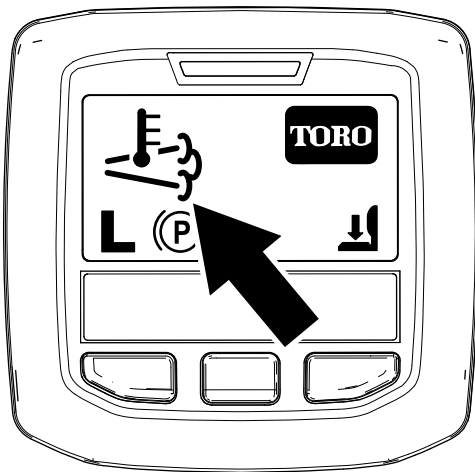

Figure 11
- The high exhaust-temperature icon  displays in the InfoCenter (Figure 11).